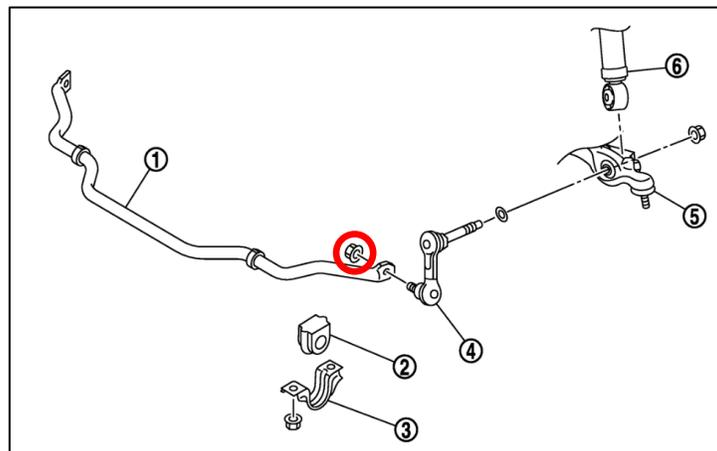

Figure 2
4. Remove the nuts securing the Sway Bar End-Links to the Sway Bar, circled below in *Figure 2*. Remove the End-Links and set aside and retain all hardware.